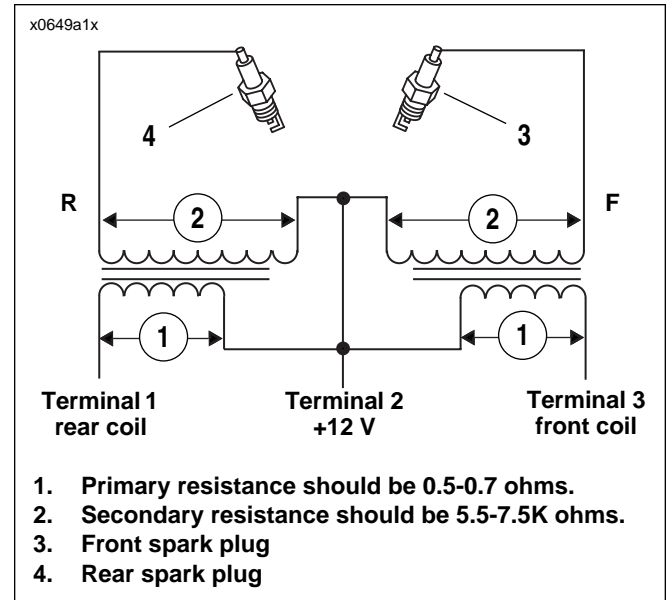

Figure 1-70. Ignition Coil Circuit
3. See Figure 1-70. Using HARNESS CONNECTOR TEST KIT (Part No. HD-41404) gray socket probes, place multimeter wires on primary coil windings from terminal 1 to 2, and from terminal 2 to 3.
3. See Figure 1-70. Place multimeter wires on secondary coil windings from terminal 2 to R, and from terminal 2 to F.